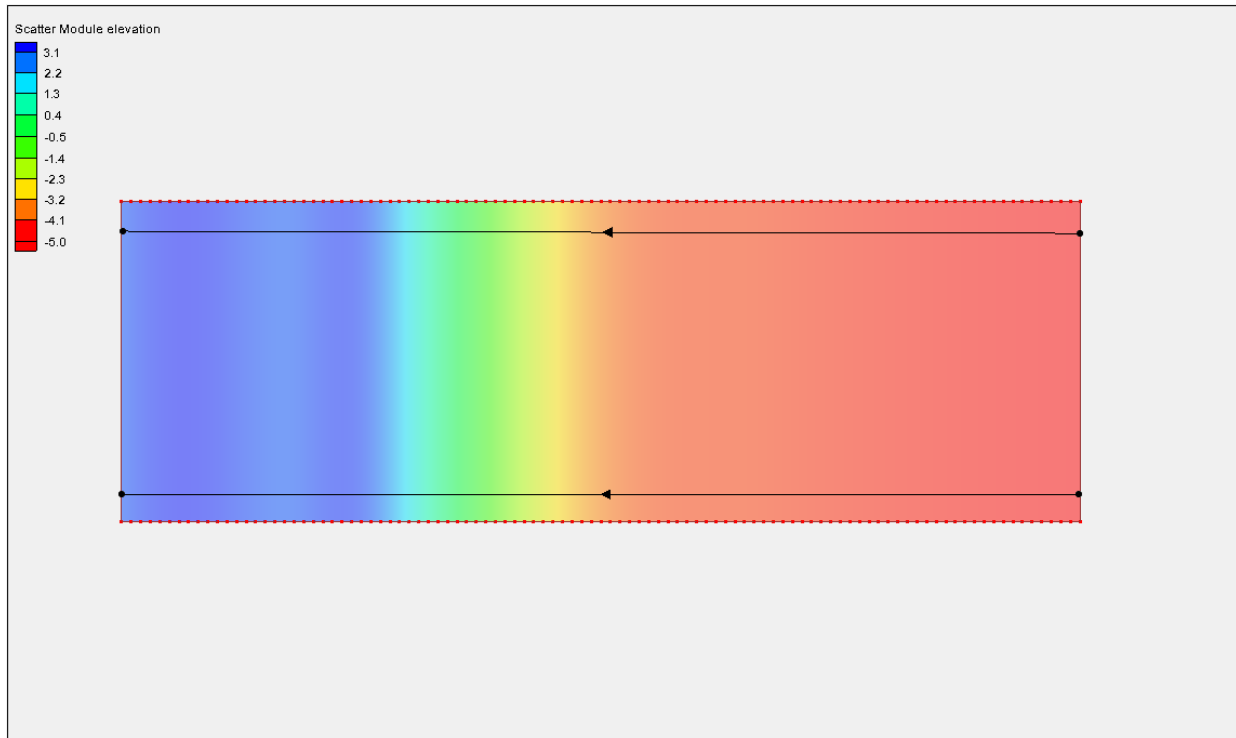

Figure 4 Geometry with two profile arcs created.
5. Click on the offshore region on the right to define the beginning of the profile. Terminate the arc near shore or up on the beach. Profile should go from deep water to shallow water/land. (See Figure 4).